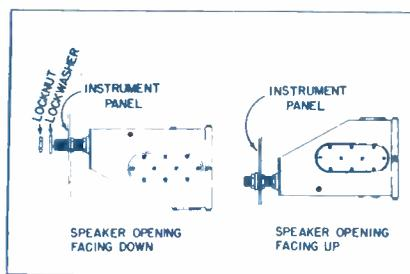

Figure 12. Speaker Opening Position
STEP 11. Mount receiver in holes from back of instrument panel with lockwashers and locknut provided. See Figure 12.